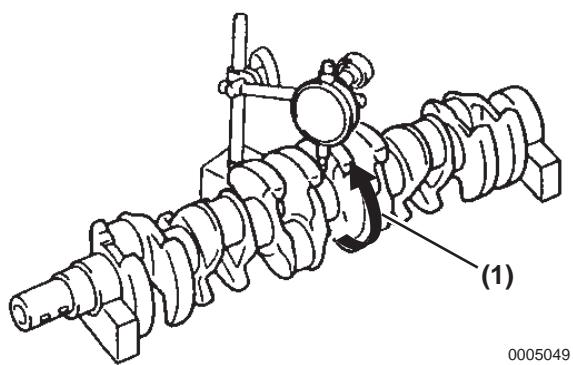

Figure 5-126
1. To measure the circle runout of the crankshaft, set the crankshaft on a V-block. Measure circle runout of the center journal using a dial indicator while turning the crankshaft (**Figure 5-126, (1)**).